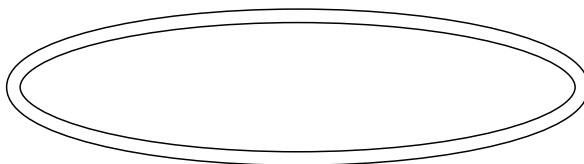
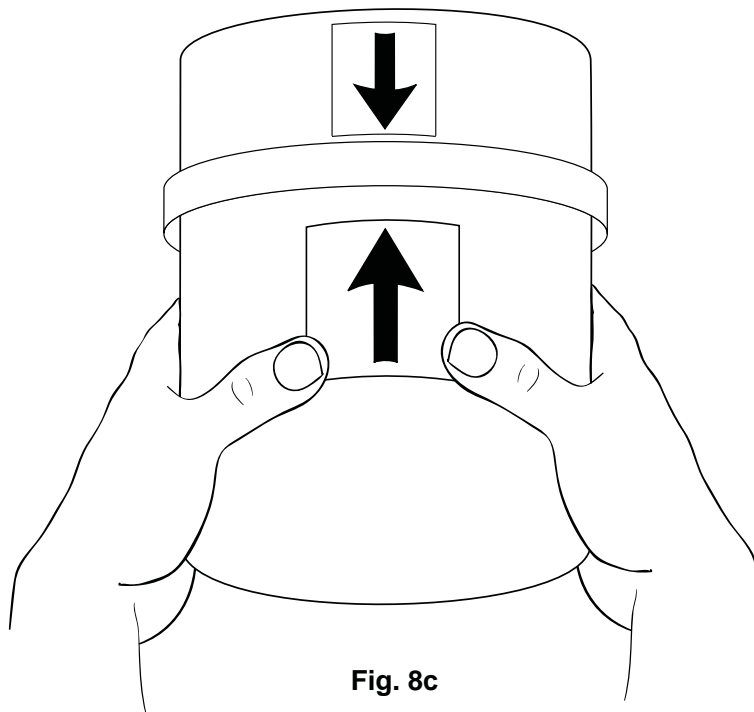

Fig. 8b
Fig. 8c
8.7 Once completed, reinstall the o-ring gasket around the bottom tank collar. Please see Fig. 8b. Align the two arrows located at the front of the tank and the fixed part while lifting the tank in place. Please see Fig.8c. Apply even pressure to secure the tank properly in the tank cover. Then close the latch holding the tank in position. The clamp should close with minimal pressure. Verify that the o-ring gasket and tank are seated properly by checking for leaks when re-starting the humidifier.